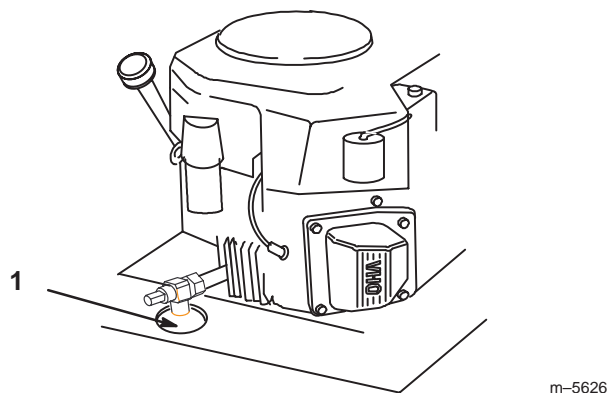

Figure 33
3. Place a pan below the oil drain. Remove the oil drain cap (Fig. 33).